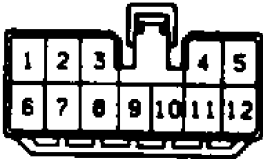

Fig. 7: Identifying System Amplifier Connector Terminals
1) Disconnect system amplifier connector. Turn ignition on. Turn temperature control dial to maximum cool position. At system amplifier connector, check continuity and voltage at specified terminals. See SYSTEM AMPLIFIER TEST (PART 1 OF 2) table. See Fig. 7.